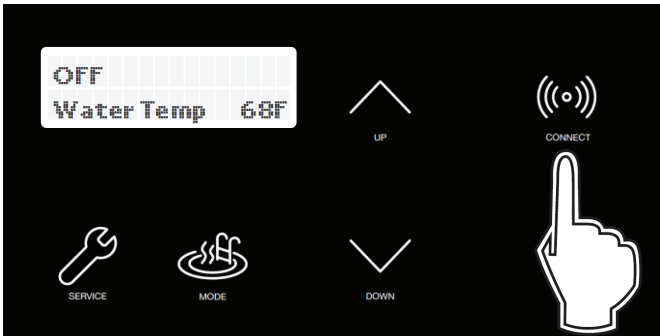

Figure 78. CONNECT Key
- Stand near the display of the AVIA unit. Press the **CONNECT** key. See **Figure 78**.